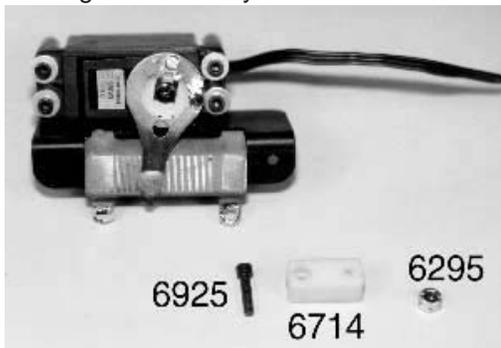

Fig. 169
□ **Figs. 169, 170 & 171** (1) Take out the #6714 yellow nylon throttle bypass mount, one #6925 4-40 x 1/2" socket head cap screw, and one #6295 4-40 steel locknut. (2) If you look at the #6714 mount you will see there are two holes. On one side of the mount one hole is recessed. Install the #6925 screw into the recessed hole (the head of the screw will be below the surface) and then through the hole on top of the right resistor bracket. (3) Thread the #6295 locknut onto the #6925 screw to secure the bypass mount to the bracket.